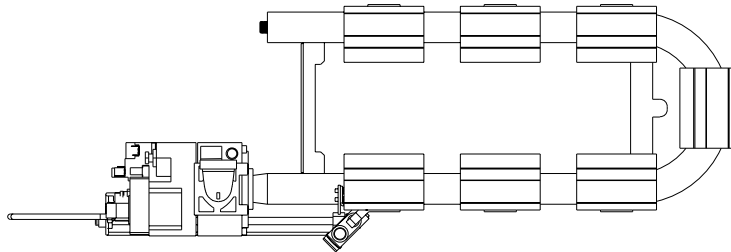

Figure 7
2. To adjust targets, bend the deflector brackets away or toward the frypot to obtain the 3/4 inch measurement. See Figure 7.